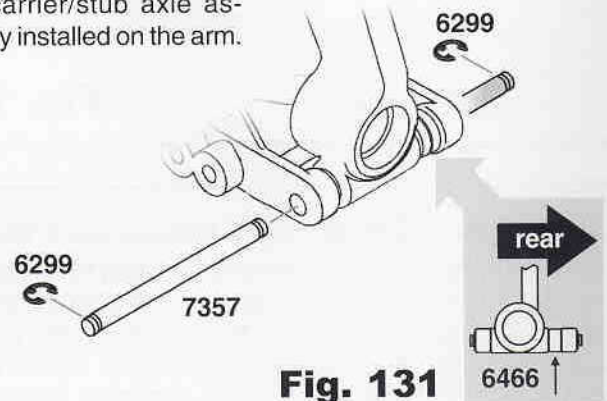

Fig. 131
□ **Figs. 131 & 132** (1) Remove two #7357 outer rear hinge pins and four #6299 E-clips. (2) Place the hub carrier and rear axle assembly between the rear arm mounting points. (3) Get the #6466 1/8" spacer and place it between the hub carrier and the arm, to the rear of the hub carrier as shown. The hub carrier should swing freely. (4) Add an E-clip to the hinge pin and slide the hinge pin through all. (5) Add another E-clip to the end of the hinge pin and do the other side.